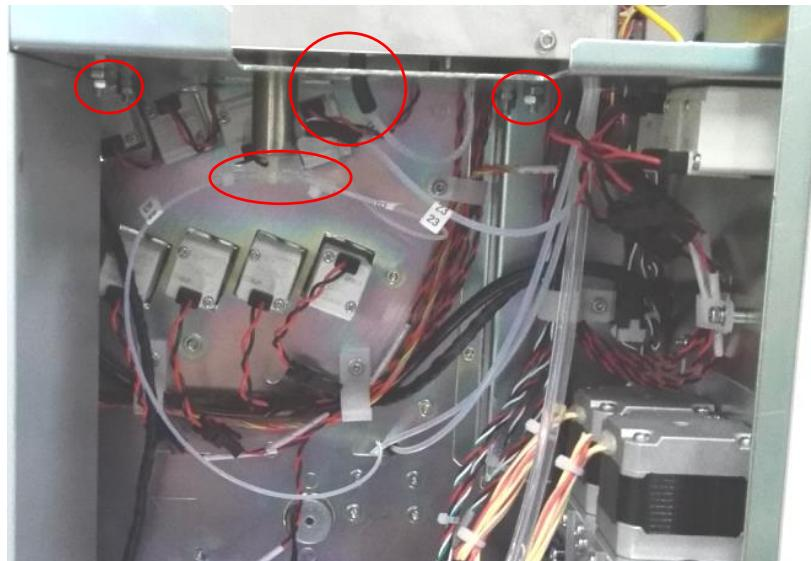

Figure 6-20 Remove the optical system
2. Gently unplug the waste outlet tube of the optical system, connect the syringe, and then unplug the other tube. Remove the remaining liquid in the optical system with a syringe, unscrew the nut with a small wrench and unplug the signal line of the optical system, as shown in Figure 6-20.